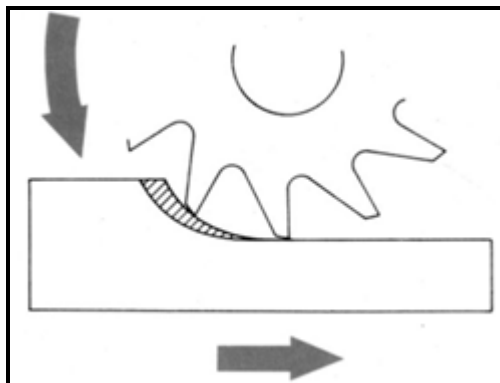

FIGURE 1.2
- 1.8 Which milling method is shown in FIGURE 1.2?